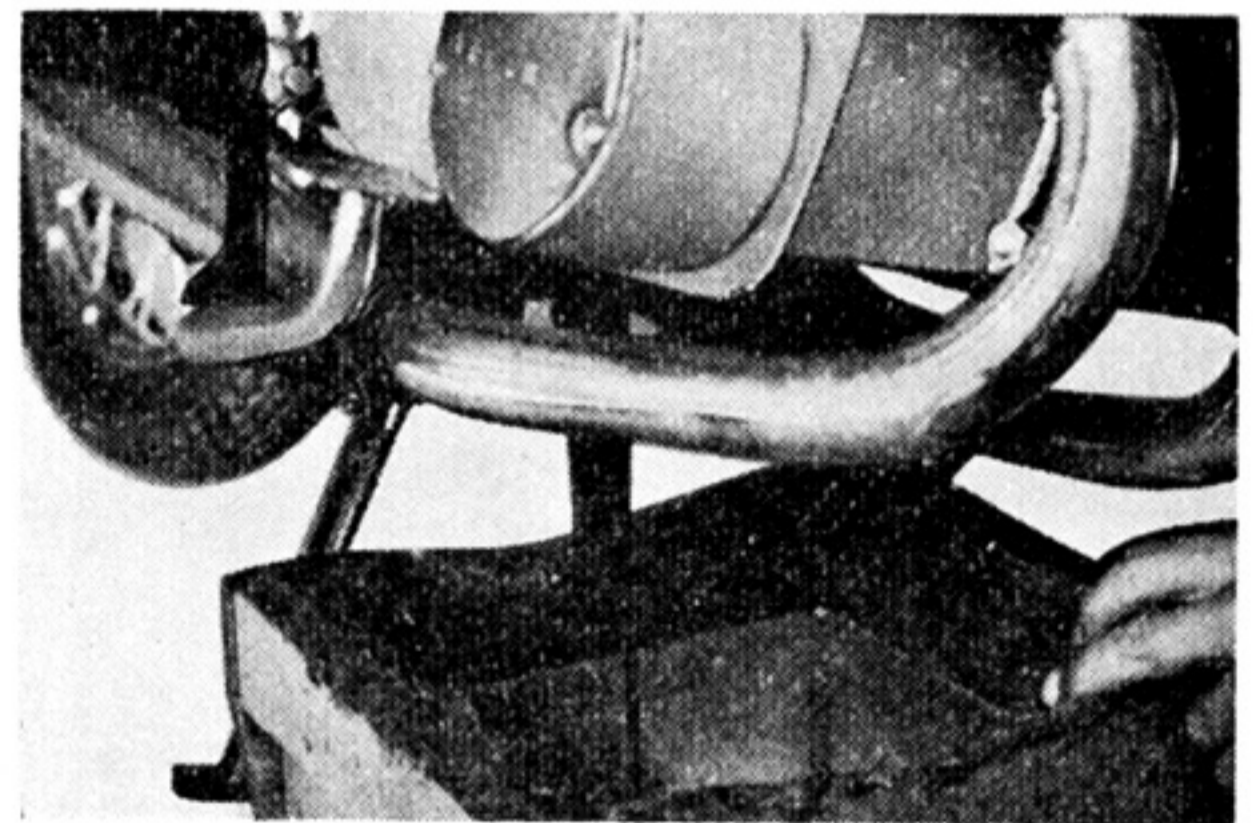

Fig. 3-1-1
1. Warm up the engine for one or two minutes, and drain the transmission oil. (Fig. 3-1-1)